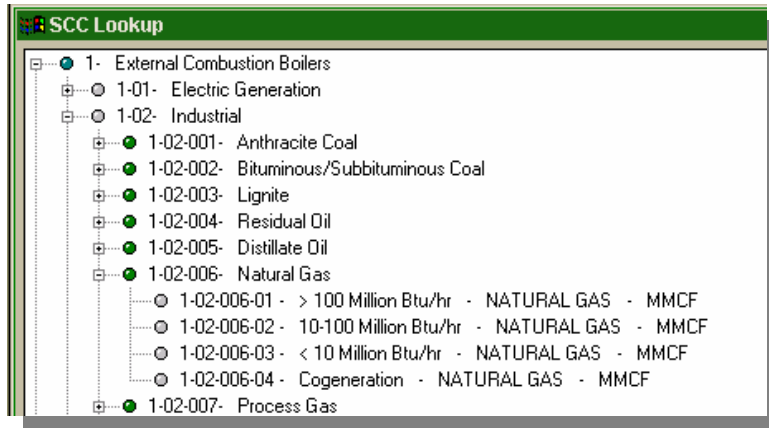

Figure 2-12: SCC Lookup Table Third Expansion
3. From this expanded list choose the next category that best represents the activity occurring at this emission unit. For our example, we must choose a fuel type. This is a natural gas fired boiler, so we would choose “Natural Gas” (1-02-006-). Click on the “+” and the list will expand again as shown in Figure 2-12.